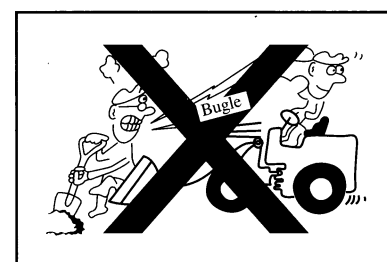

Figure1-45
- Devote your mind to operation because momentary neglect can result tragedy. Attend to surrounding people and sound the bugle to alarm them. (Figure 1-45)